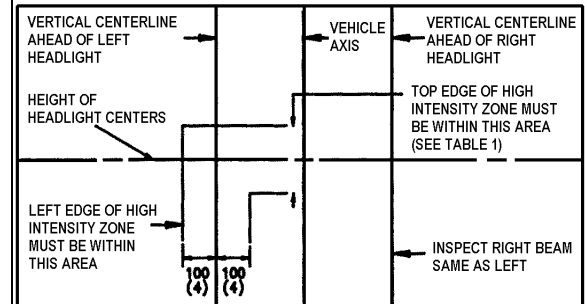

FIGURE 34: AIM INSPECTION LIMITS FOR LOWER-BEAM HEADLIGHTS 06506
- The inspection limits in the vertical direction for low-beam headlights or the low beam of a dual-beam headlight, shall be as described in Table 1. In the horizontal direction, the left edge of the high-intensity zone shall be located from 10 cm (4 in) left to 10 cm (4 in) right of the vertical centerline of the beam. The viewing screen shall be located 7.6 m (25 ft) in front of the vehicle (Fig. 34).